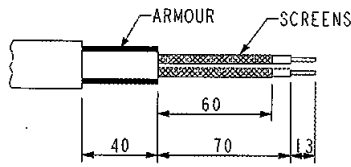

Fig.5. CABLE MAKE OFF AND ASSEMBLY DETAILS OF TYPE A39PI I.P.C. CONNECTOR
2. The I.P.C. Connector is the Type A39PI or A39PI/A and is covered by certificate MECS01ATEX5399U. It is designed for use with Type 62 cable to BS 6708:1998. A copy of the full installation leaflet is available on request although cable make off and assembly details are shown in Fig.5.